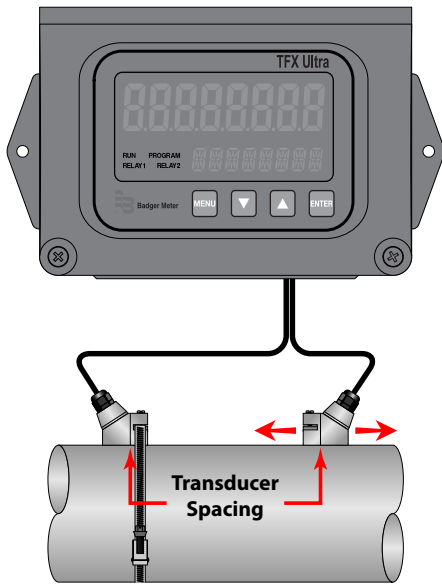

Figure 12: Transducer positioning
2. Place the downstream transducer on the pipe at the calculated transducer spacing. See *Figure 12 on page 21*. Apply firm hand pressure. If signal strength is greater than five, secure the transducer at this location. If the signal strength is not five or greater, using firm hand pressure slowly move the transducer both towards and away from the upstream transducer while observing signal strength. Signal strength can be displayed on the transmitter's display or on the main data screen in the UltraLink software utility. See "*Parameter Configuration Using UltraLink Software*" on page 48. Clamp the transducer at the position where the highest signal strength is observed. The factory default signal strength setting is five. However, there are many application-specific conditions that may prevent the signal strength from attaining this level. Signal levels less than five will probably not be acceptable for reliable readings.